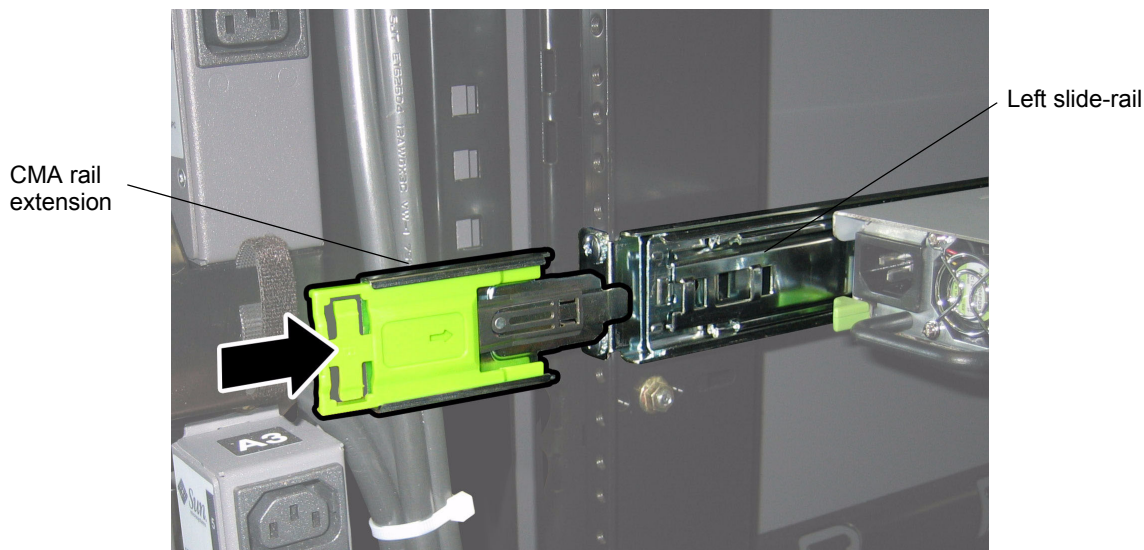

FIGURE 1-5 Inserting the CMA Rail Extension Into the Rear of the Left Slide-Rail
3. Locate the CMA rail extension and insert it into the left slide-rail until the extension locks into place with an audible click. See FIGURE 1-5.